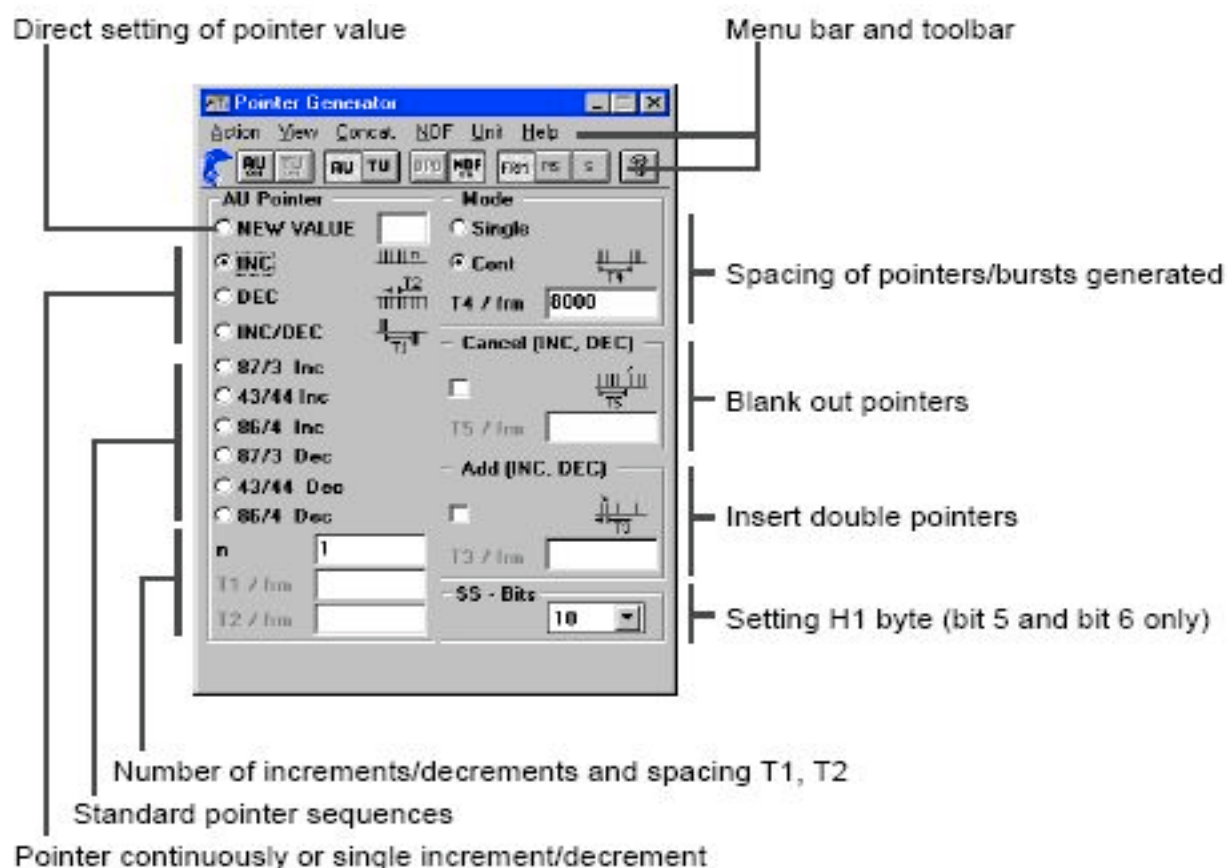

Fig.5-A Pointer generator VI main window
3. Click on the VI icon. Pointer generator window appears as in fig.5-A
Icon(button) wise interpretation is given in fig.5-B